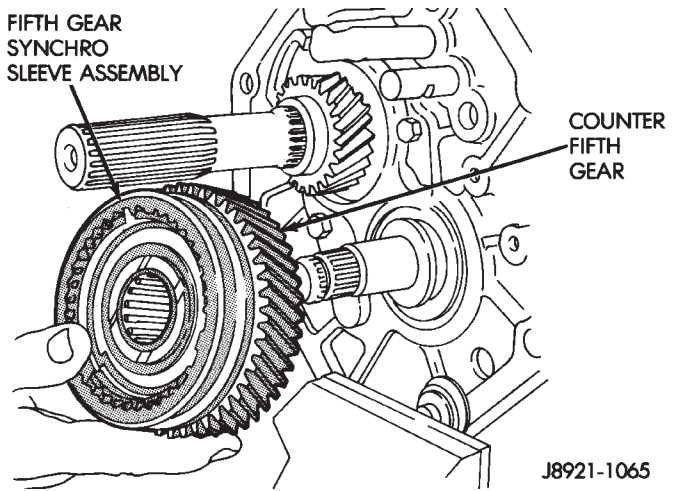

Fig. 35 Counter Fifth Gear And Synchro Assembly Removal
(16) Remove fifth gear synchro and sleeve assembly (Fig. 35).